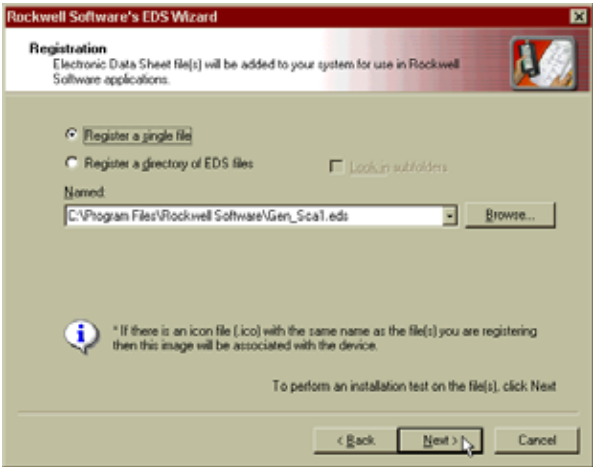

FIG. 114: SELECTING THE HARDY EDS FILE
- Step 10. The Registration dialog box reappears with the path to the Hardy EDS file in the text field. (See Fig. 114)